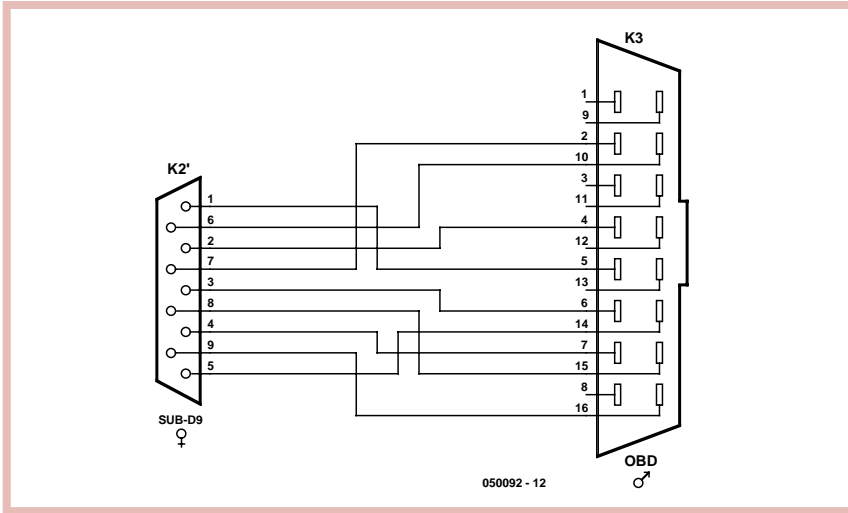

Figure 4. Signal connections in the OBD-to-serial cable.
The other DB9 connector is connected using a special cable that has a female DB9 connector at one end and a male OBD plug at the other end (see **Figure 4**). The most convenient solution is to buy this cable along with the PCB. It is specially made for this application. Connect the OBD plug to the OBD service connector in your car. Note: be sure to connect the OBD plug **after** all other connections have been made, due to the risk of static charges (see the inset).
- Adapter cable, female DB9 to OBD wired according to Figure 4.